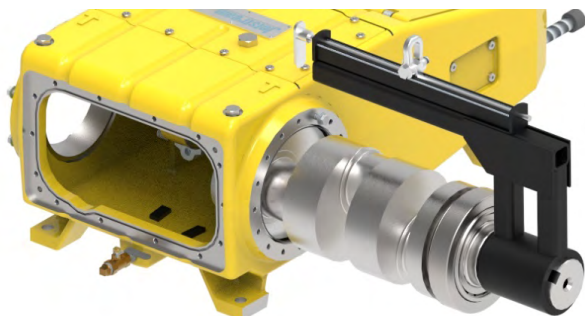

Figure 150: Remove Crankshaft
11. Pull the crankshaft out of the pump with the lifting tool. Adjust the leveling wheel on the lifting tool as needed to keep it horizontal. (Figure 150)